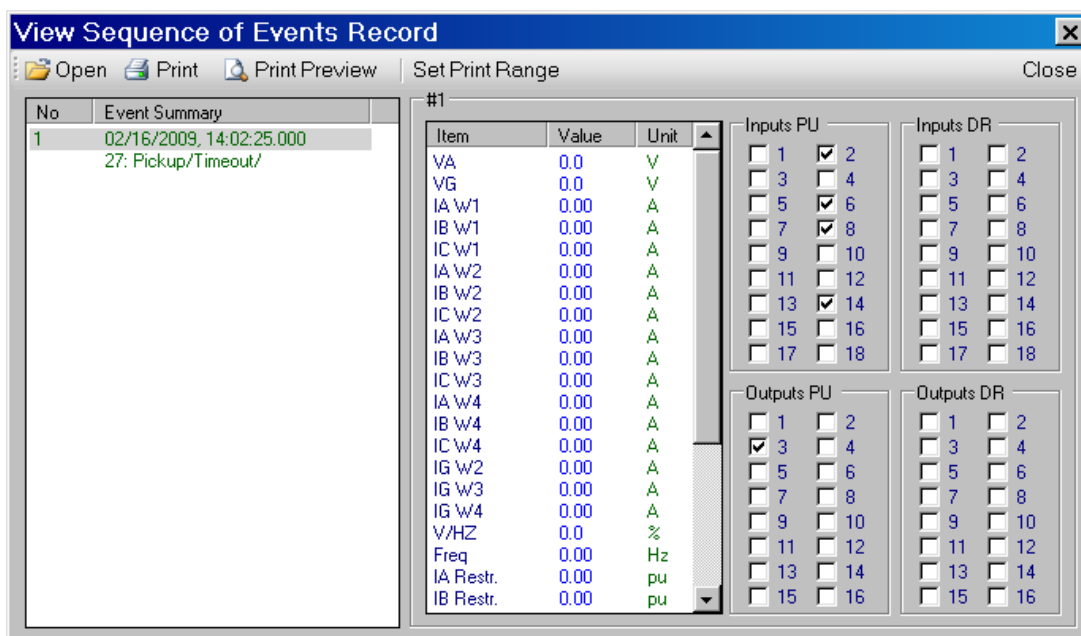

Figure 2-31 View Sequence of Events Record Screen
1. From the IPScom[®] Main Screen menu select **Relay/Sequence of Events/View**. IPScom will display the View Sequence of Events Record screen (Figure 2-31).
4. Select **Open**. IPScom will **Open** the target file in the View Sequence of Events Record screen (Figure 2-31).